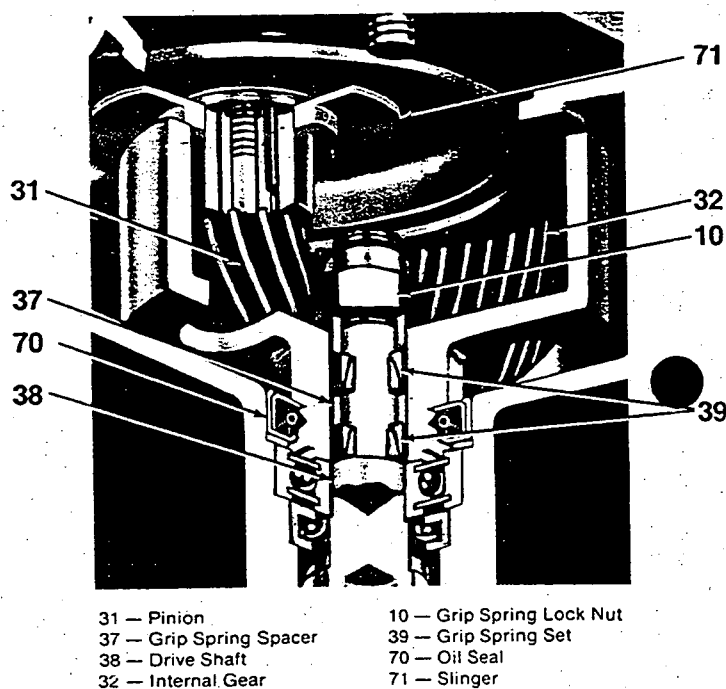

FIGURE 5. GRIP SPRING ASSEMBLY
- 6-5. The gear drive models (XJ) include a built-in shock load feature. The grip springs (See Figure 5) provide a keyless friction drive between the gear and the drive shaft, and the springs will slip before the mixer is damaged. Therefore, if the mixer shaft does not rotate when the motor is on, remove the motor (41) from the housing (36), per Paragraph 9-1, and tighten the grip spring locknut (10) securely. (Table 4 on Page 18 lists the recommended tightening torques for this locknut. If a torque wrench is not